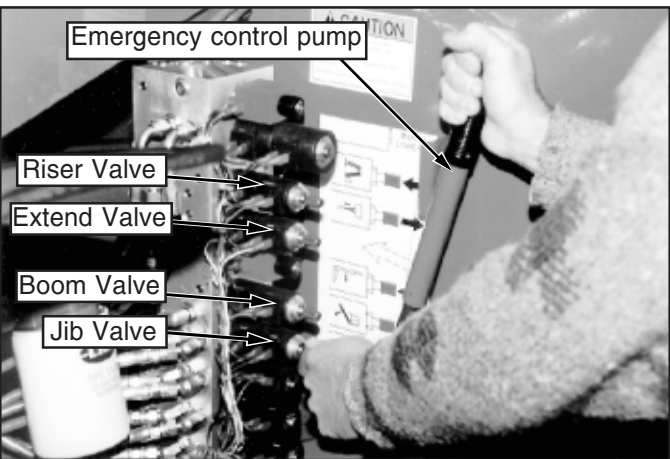

Figure 4: Emergency Control Operation
3. Operate the manual override (knurled knob) on the appropriate valve (see fig. 4). Push in to lower / extend, pull out to raise / retract as required.